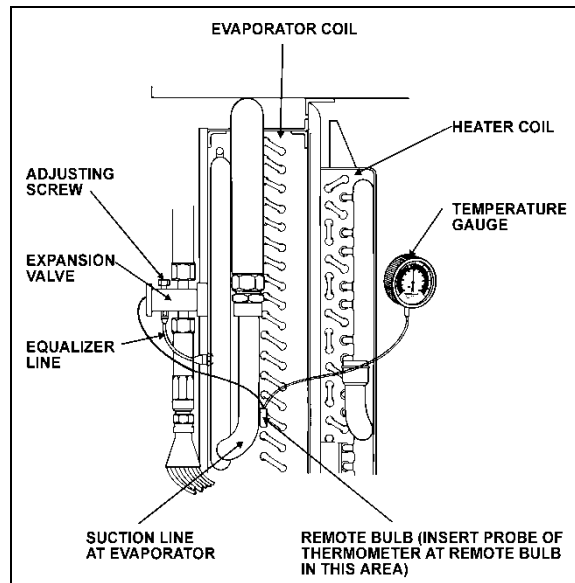

FIGURE 55: SUPERHEAT ADJUST. INSTALLATION 22046
3. Use a remote reading thermometer or thermocouple / multimeter to measure temperature at the evaporator outlet line near the existing remote bulb (Figure 55).